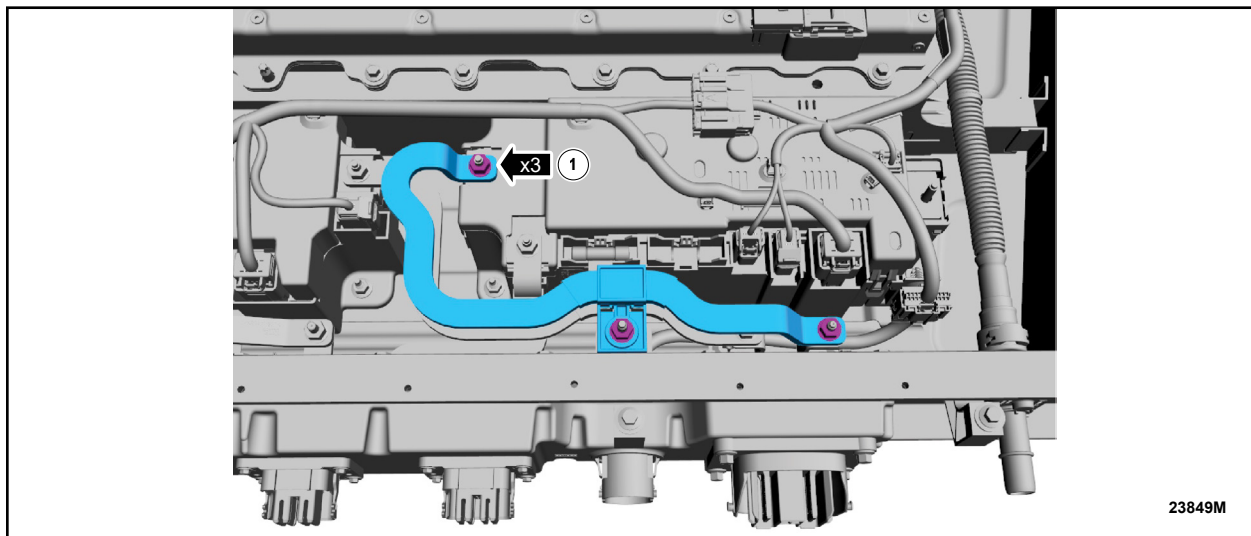

FIGURE 12
27. Remove the nuts and the bus bar. See Figure 12.